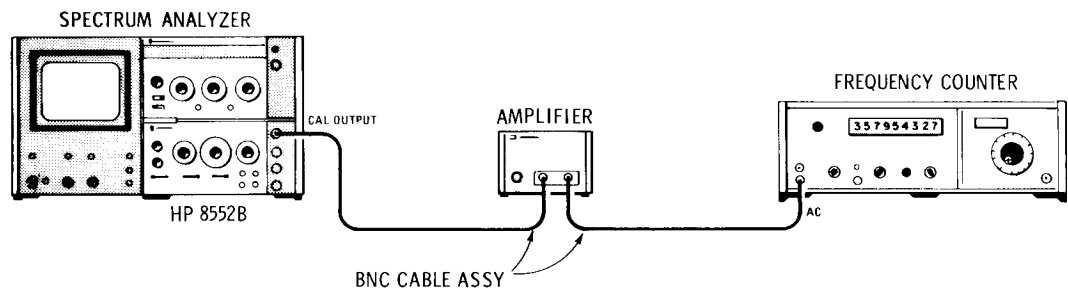

Figure 4-4. Calibrator Frequency Check Test Setup
6. Connect the equipment as shown in Figure 4-4 and make the following settings: